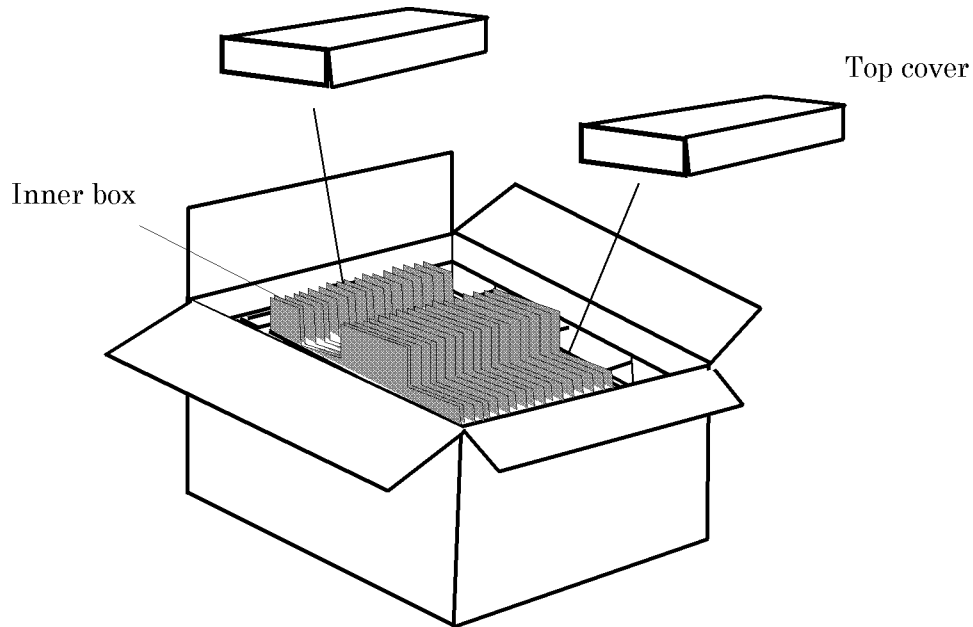

Fig.9
- Upper protector is put on the products and shut the box.(Fig.9)